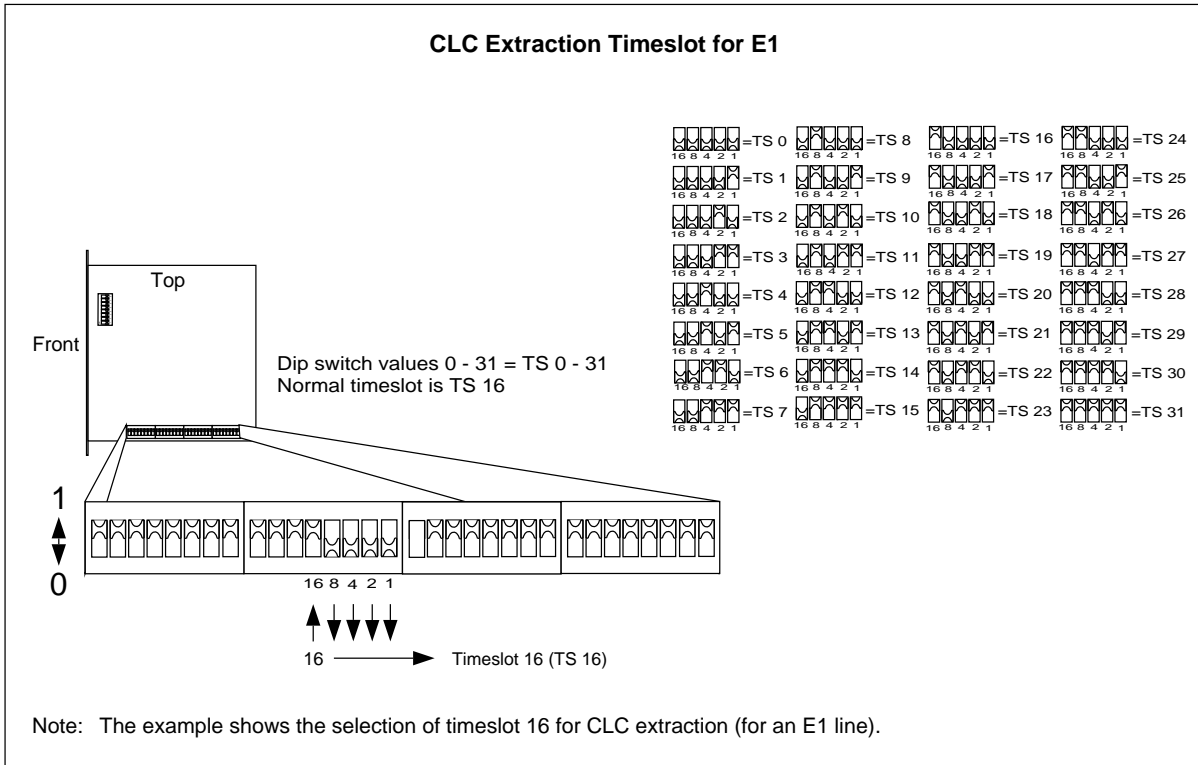

Figure 4-25. Setting the CLC Extraction Timeslot for E1
11. For an E1 PCM line, select the time slot (TS) for Control signaling Link (CLC) extraction, as shown in Figure 4-25 on page 4-42 in accordance with the *Configuration Data* in the *Site Installation Documentation*.